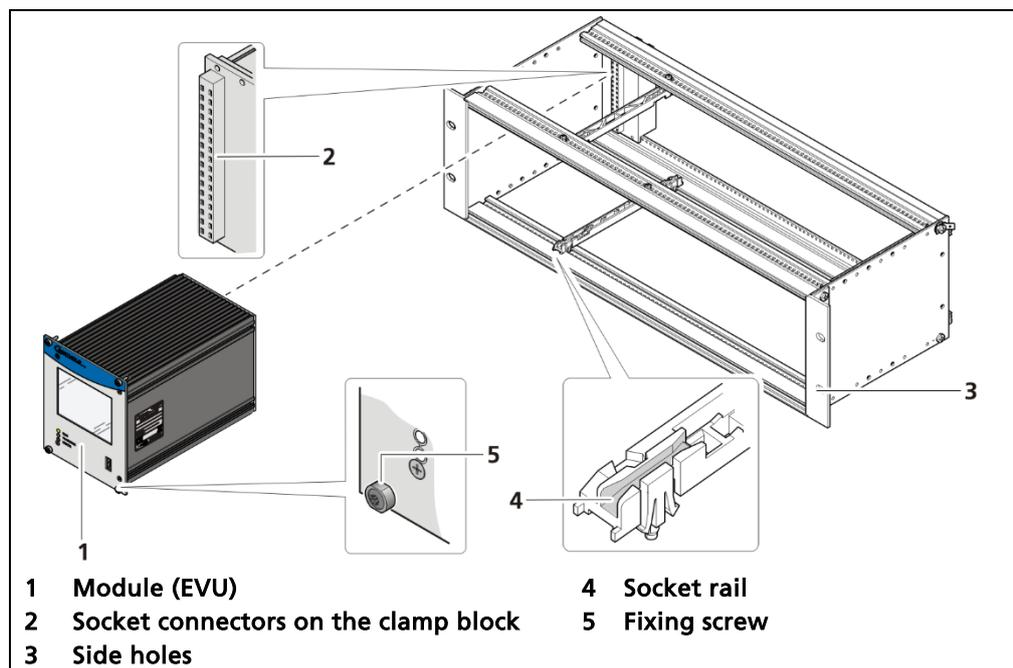

Fig. 12 19" subrack with clamp block
The 19" subrack can be equipped differently, depending on requirements (see chap. 4.4 Installation variants). The rear clamp blocks (Fig. 12, item 2) or terminal panel (Fig. 13, item 2) are used for the electrical connection.
The subrack is installed in a 19" control cabinet or a control panel (switchboard). The 4 side holes (Fig. 12, item 3) that must be provided with fitting screws are used to fasten the subrack.
The EVUs must be secured by fixing screws (Fig. 12, item 5).
1. Insert the module (Fig. 12, item 1) into the socket rails (Fig. 12, item 4).
2. Slide the module carefully into the subrack until the pin rail on the module is inserted in the socket connectors (Fig. 12, item 2).
3. Tighten all the fixing screws (Fig. 12, item 5).